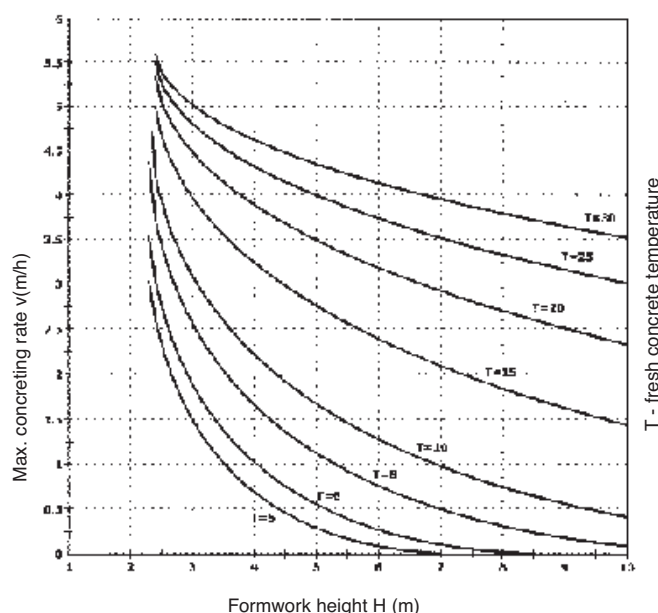

Fig. 9.6
- Fig. 9.6 is for wall concrete casting rate (with the use of MIDI BOX formwork) and concrete without retarders.
2. For a 5.5 m high wall cast in temperature of 10°C without retarders, the value of maximum concrete casing rate read on Fig. 9.6 is 1.5 m/h. In order to obtain an average rate across the whole height of formwork concrete should be cast in 1.5 m thick layers every 1 hour or in 75 cm thick layers every 0.5 hour, so as to cast a layer not exceeding 1.5 m in 1 hour. In the extreme case the layer may be 2.0 cm thick but casting may be continued after 1 hour and 20 min.